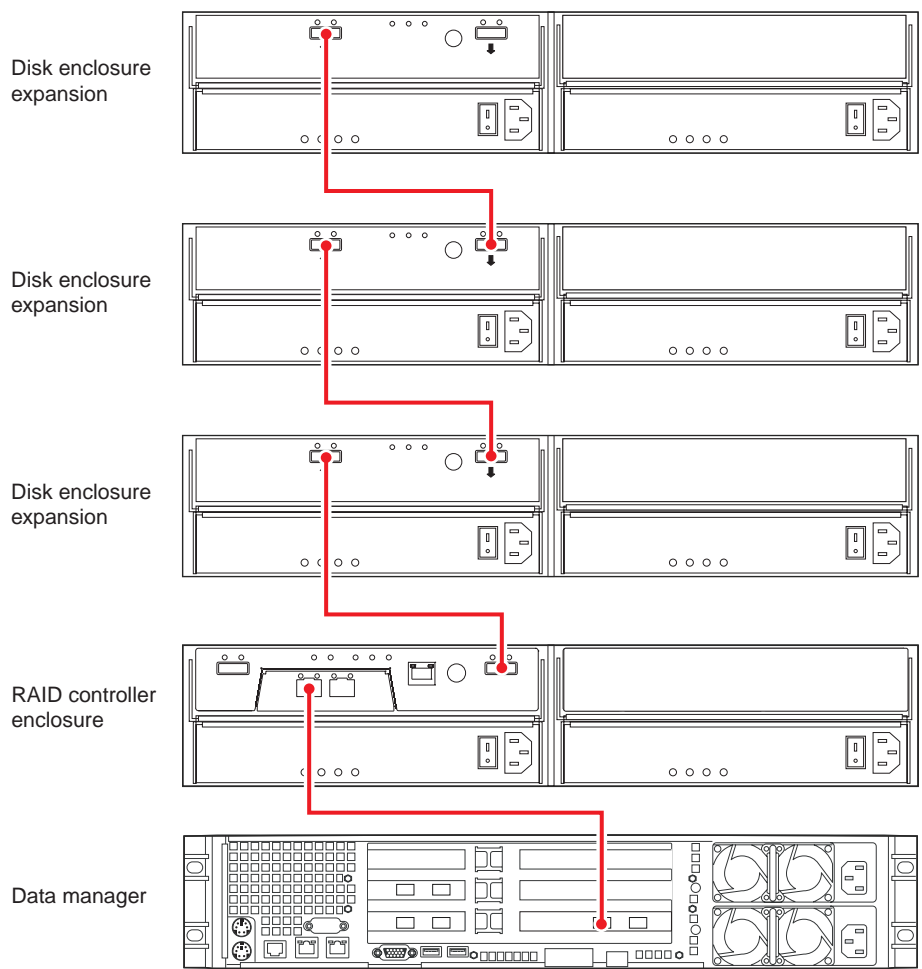

Figure 1-14 Data Manager, Single-Controller RAID Enclosure and Three Disk Expansion Units
Use the following steps and Figure 1-14 to cable a data manager to a single-controller RAID enclosure and three disk expansion enclosures.
1. Connect the Data Manager's Fibre Channel PCI card port A to the RAID controller's host 1 port in the controller enclosure, see Figure 1-14.